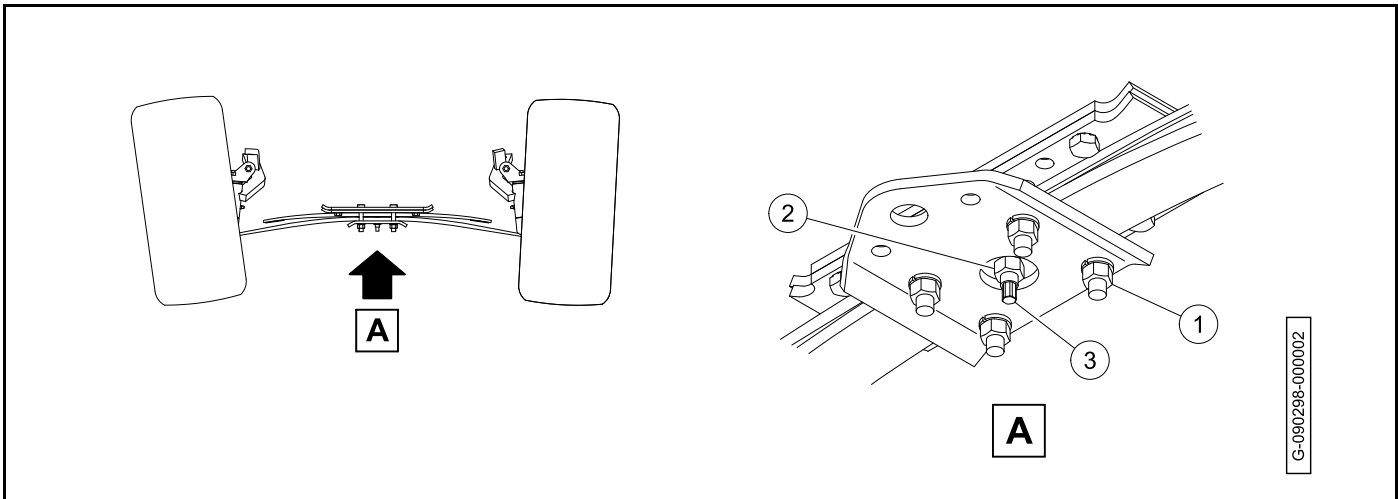

Figure 7-8 Adjust Camber
4. Loosen the four bolts (1). Do not remove the bolts (**Figure 7-8**).